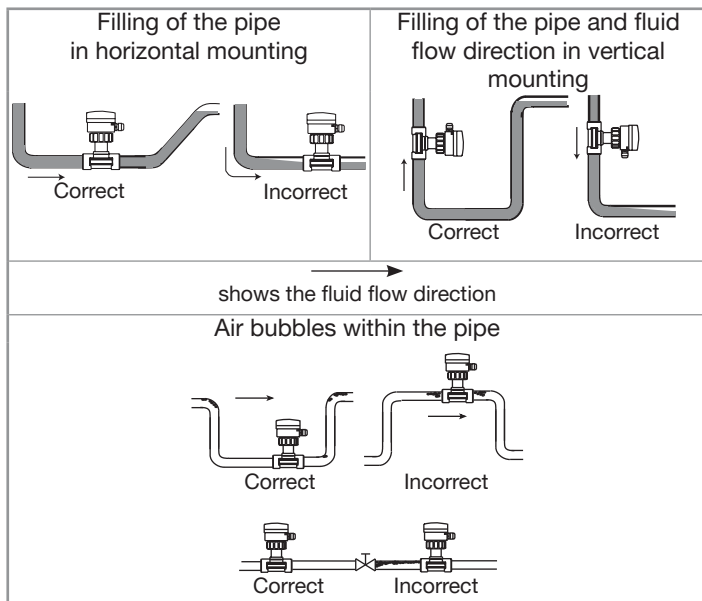

Fig. 5: Filling of the pipe, flow direction of the fluid, vertical mounting and air bubbles within the pipe
- the pipes are always filled to the level of the sensor (see Fig. 5).
- when mounted vertically, the flow direction of the fluid is upwards (see Fig. 5).
- air bubbles do not form around the sensor (see Fig. 5).
- the pipes are always filled to the level of the sensor (see Fig. 5, chapter 7.2.1).
- when mounted vertically, the flow direction of the fluid is upwards (see Fig. 5, chapter 7.2.1).
- air bubbles do not form around the sensor-fitting (see Fig. 5, chapter 7.2.1).